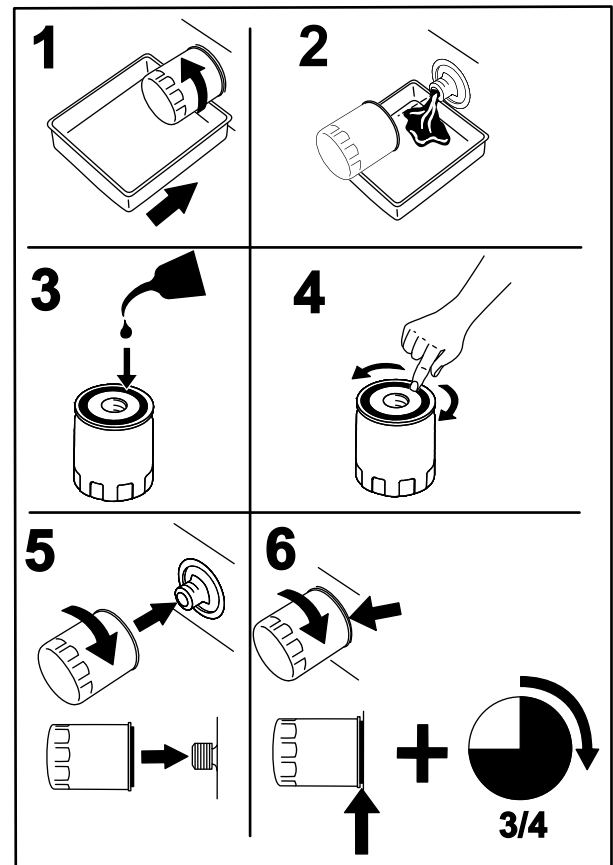

Figure 46
- Change the engine oil filter (Figure 46).